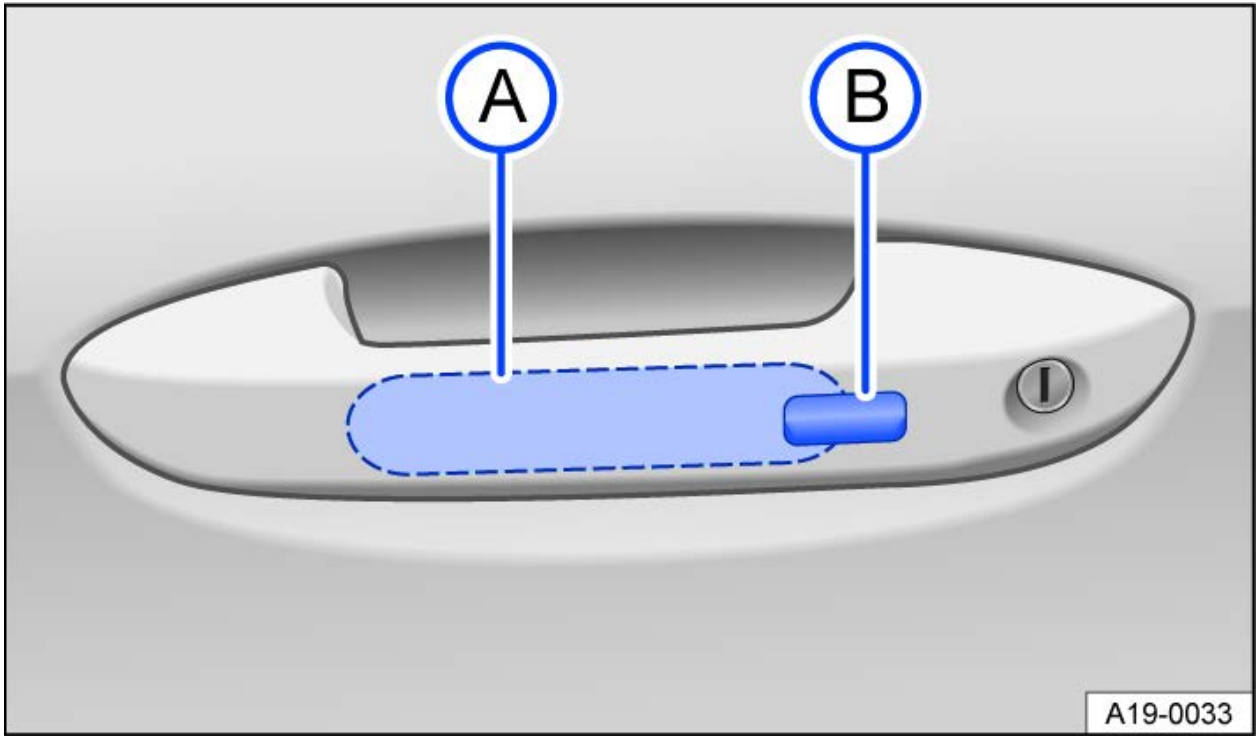

Fig. 1 In door handle: sensors.
—Touch the sensor → *fig. 1* (A) on the inside of the door handle. All turn signals will flash *twice*.
—Touch the sensor → *fig. 1* (B) on the outside of the door handle. All turn signals will flash *once*.